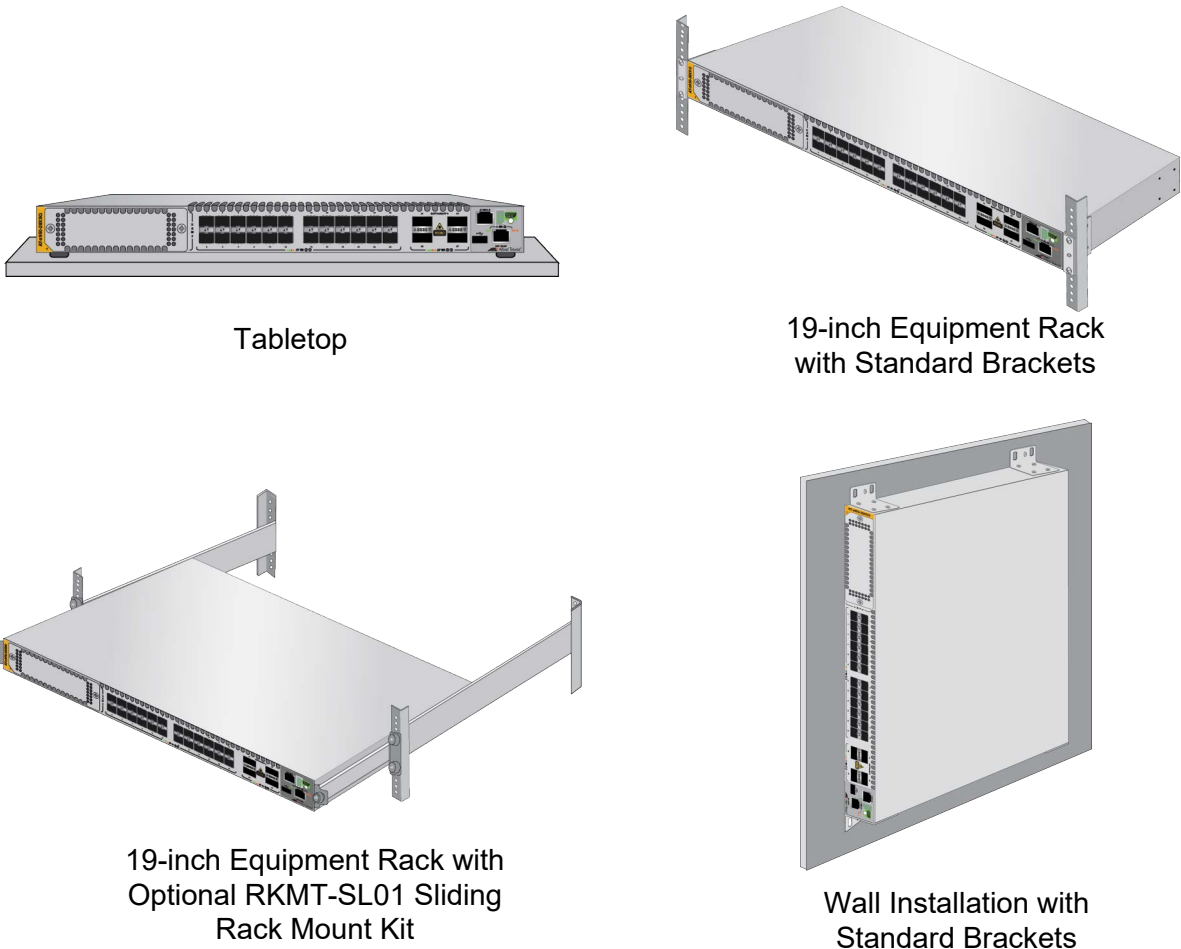

Figure 50. Installation Options
- ❑ The switch has four orientation options. Refer to Figure 50.